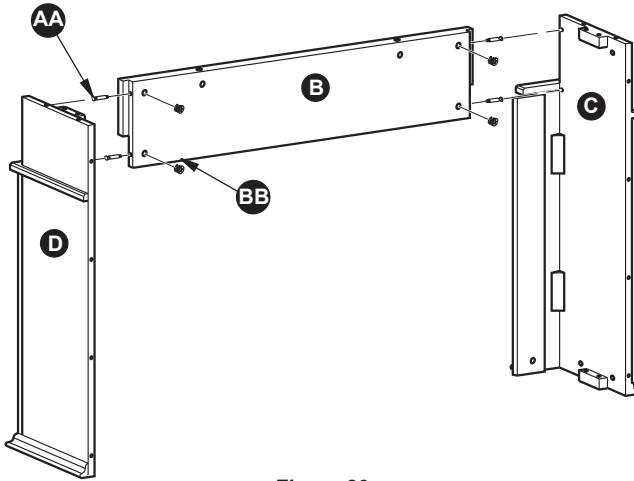

Figure 29
1. Insert 4 Cam Locks (BB) into Panel (B). Screw 4 Cam Dowels (AA) into the Left Side Panel (C) and the Right Side Panel (D). Attach Panel (B) into assembled frame (C, D) by tightening the Cam Locks (BB) as shown in Figure 29.